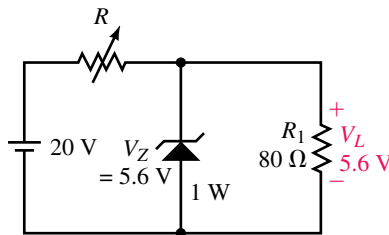

FIGURE 7-63
20. Given the circuit of Figure 7-63, determine the range of R (maximum and minimum values) which will ensure that the output voltage $V_L = 5.6 \text{ V}$ while the maximum power rating of the zener diode is not exceeded.